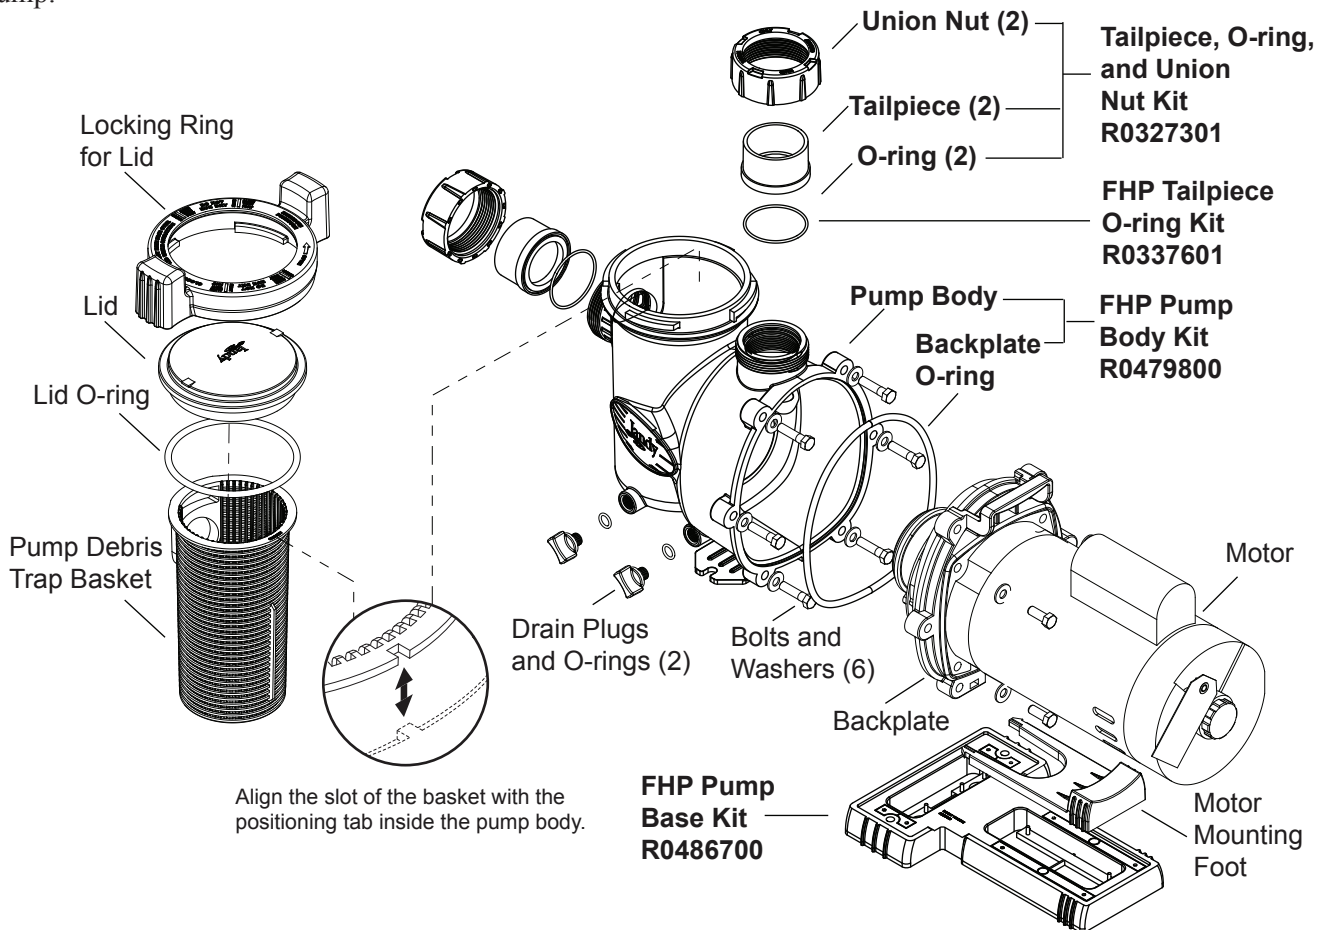

Figure 1. FHP Exploded View
Refer to Figure 1 and the parts list on page 4 to identify the parts in the replacement kits. (The parts in bold type are in the replacement kits.)
2. Remove the drain plugs and o-rings to drain the water from the pump. See Figure 1.
3. Using a 9/16" wrench, loosen the six (6) bolts connecting the pump body to the motor backplate.
4. Pull the motor with attached backplate assembly out of the pump body. Remove the backplate o-ring from the pump body, as shown in Figure 1.
7. Slide the diffuser into the inside centric hole of the pump body. While supporting the motor, start two (2) screws on opposite sides. Then start the other four (4) screws.
8. Tighten the screws lightly in a crossing "X" pattern using a 9/16" wrench. Start with the inner (middle) two (2) screws, then tighten the outer (top and bottom) four (4) screws to draw the backplate to the body in an even manner. When all the screws are snug, tighten in the same order to 10 ft-lbs of torque.
9. Place the pump debris trap basket assembly into the pump body. Make sure that the slot of the basket is aligned with the positioning tab inside the pump body. See Figure 1.